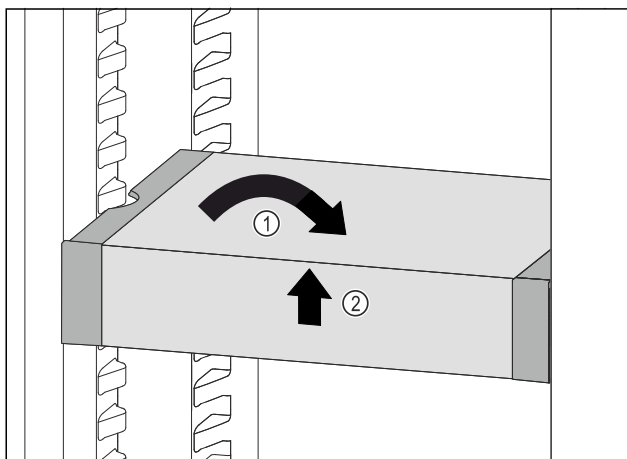

Fig. 131
- Set VarioSafe straight. Fig. 131 (1)
- Lift VarioSafe at the front. Fig. 131 (2)